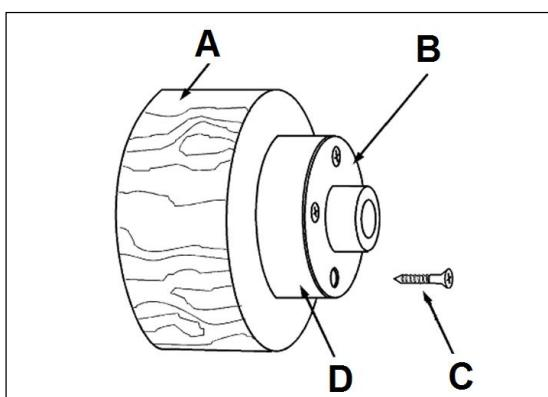

Fig 17
Mount the workpiece (A, Fig 17) directly to the face plate using 4 wood screws (C) from the back.